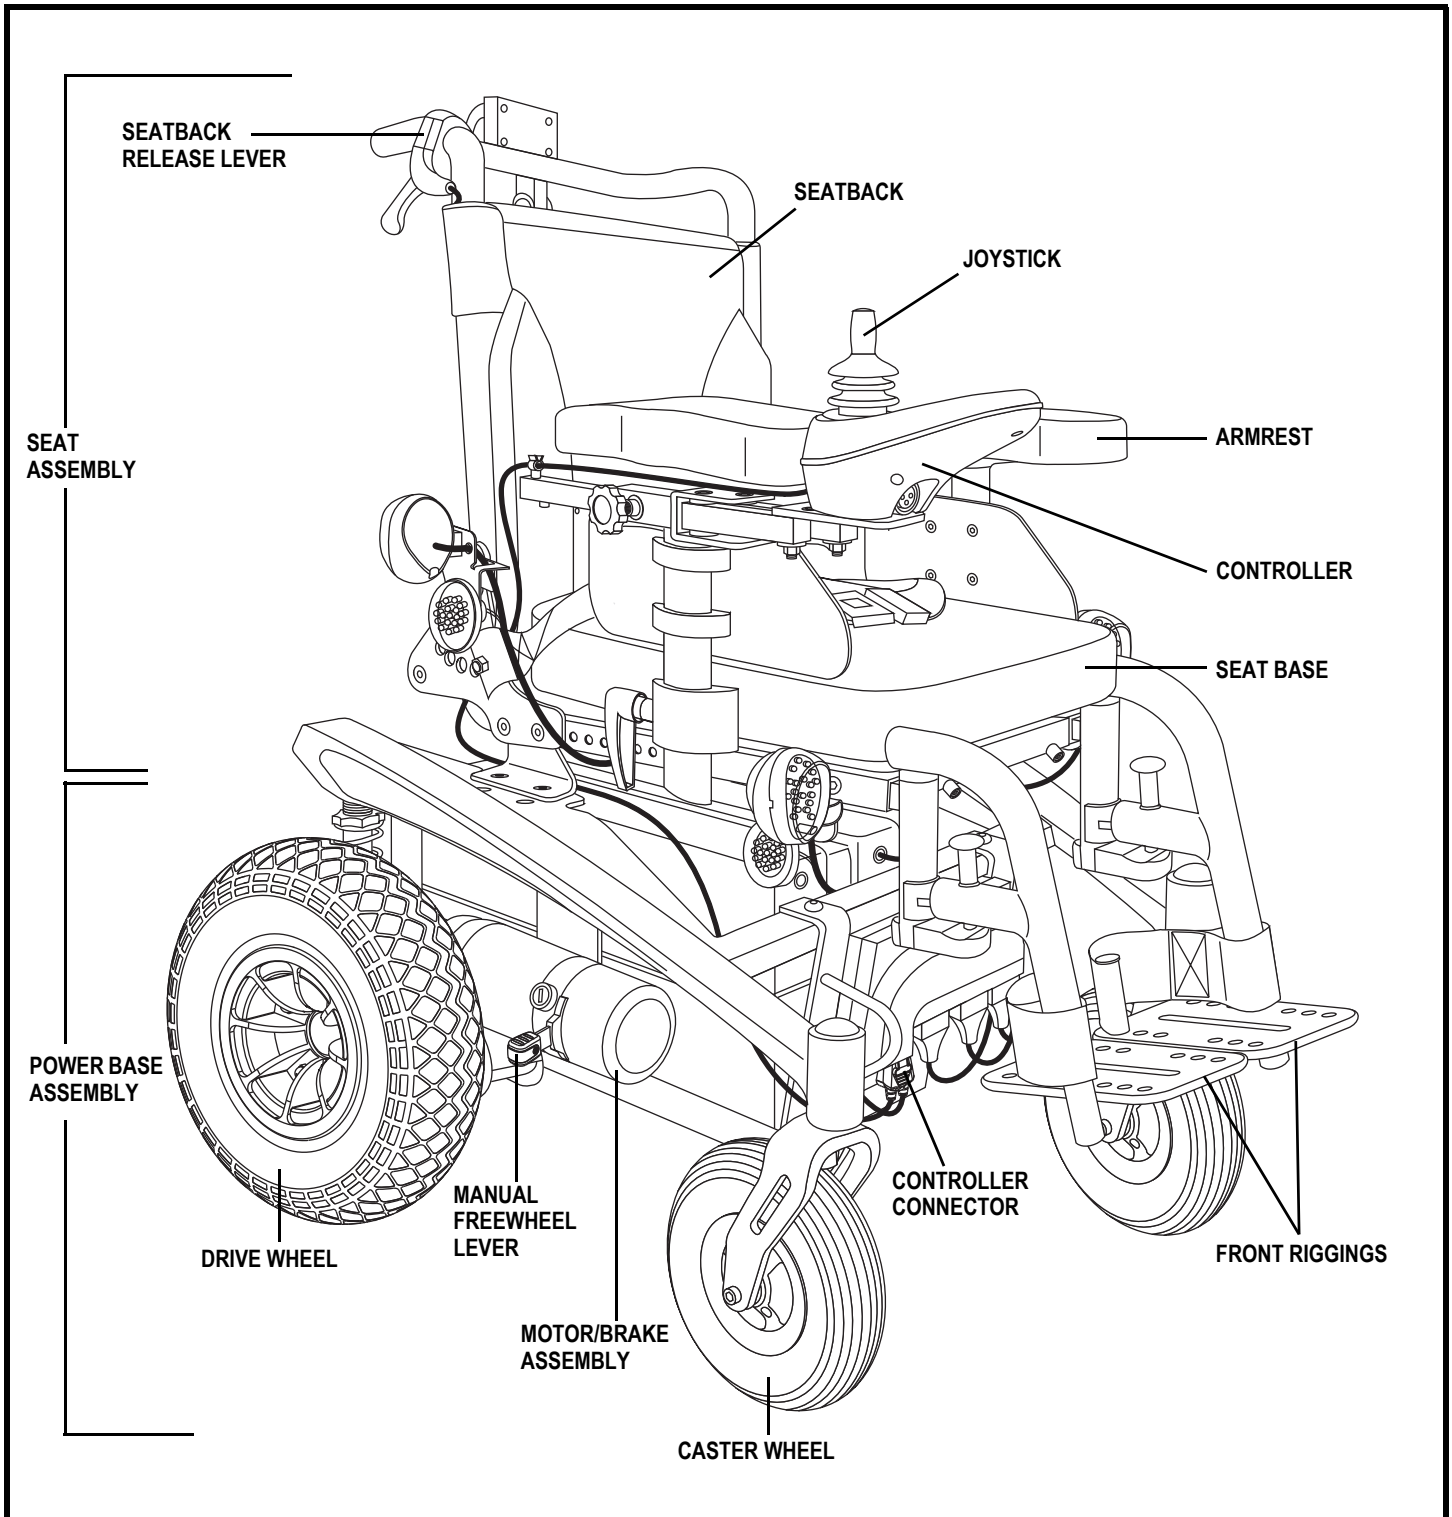

Figure 5. The Sparky
Your power chair has two main assemblies: the seat and the power base. See figures 5 and 6. Typically, the seat assembly includes the armrests, seatback, and seat base. The power base assembly includes two motor/brake assemblies, two drive wheels, two caster wheels, two anti-tip wheels, two batteries, and wiring harnesses.
**Controller Connector:** This is where the controller connects to the power base. The controller connector is located at the front of the power base. See figure 5.